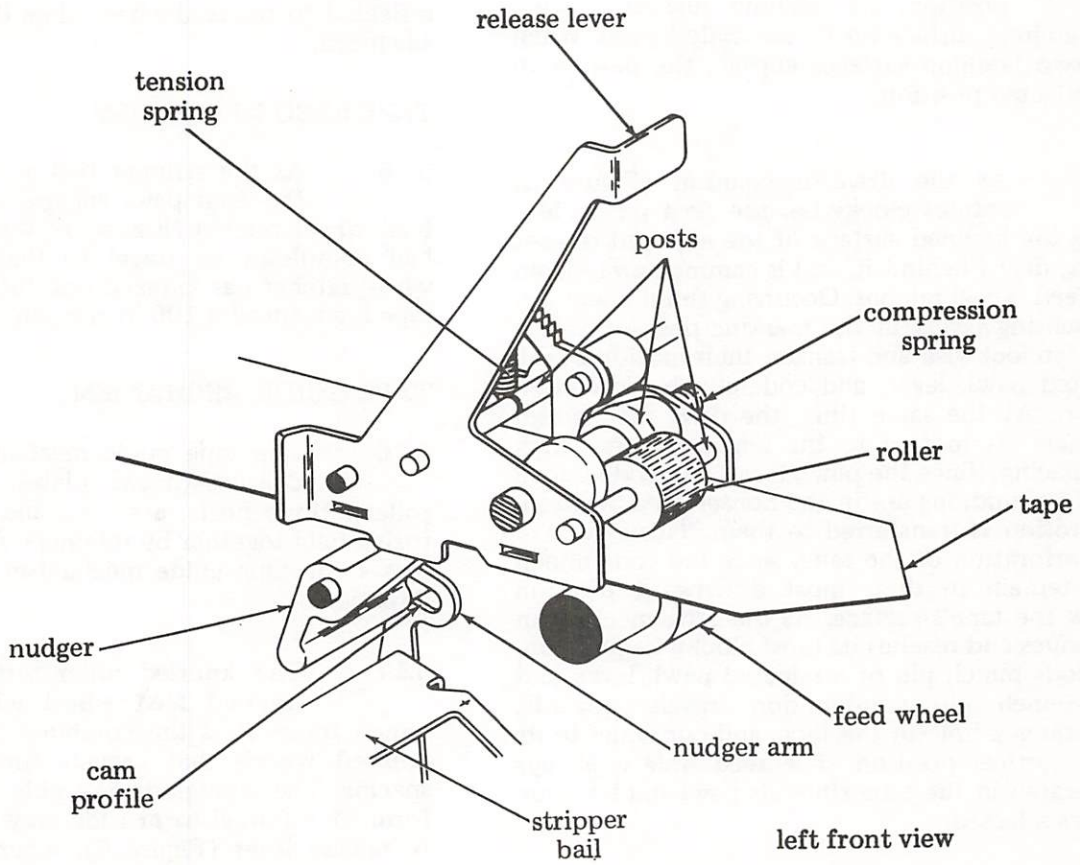

Figure 6 - Tape Guide Mechanism
3.16 The tape guide mechanism (Figure 6) consists of two plates, a bracket, two rollers, three posts, a sleeve, and a compression spring held together by retainers. A tension spring biases the tape guide mechanism in a clockwise direction.
3.17 The knurled roller settles against the knurled feed wheel with a predetermined force. It is the combination of force and knurled wheels that provide for adequate tape spacing. The tape guide assembly is shaped in the form of a funnel to provide easy tape threading. A release lever (Figure 6), when pushed back, rotates the tape guide mechanism in a counterclockwise direction and disengages the roller from the feed wheel, thereby providing easy tape removal and feeding.